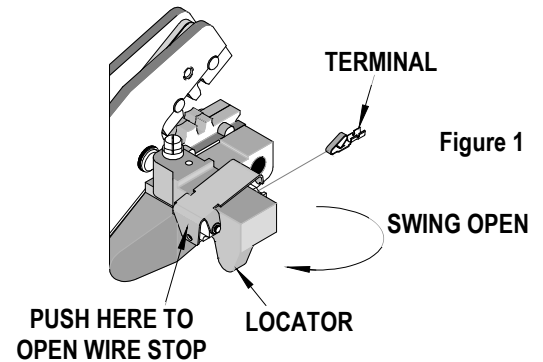

Figure 1
2. Swing the terminal locator away from the crimp tool shown in Figure 1. Some terminals with large insulation grips may interfere with the crimp tooling when swinging the locator into position. The terminal must then be loaded into the locator in the original position.